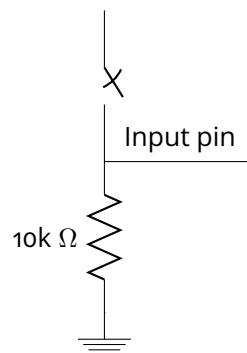

Figure 4: Example of Input Pin Grounding
- Example of proper grounding: See figure 4